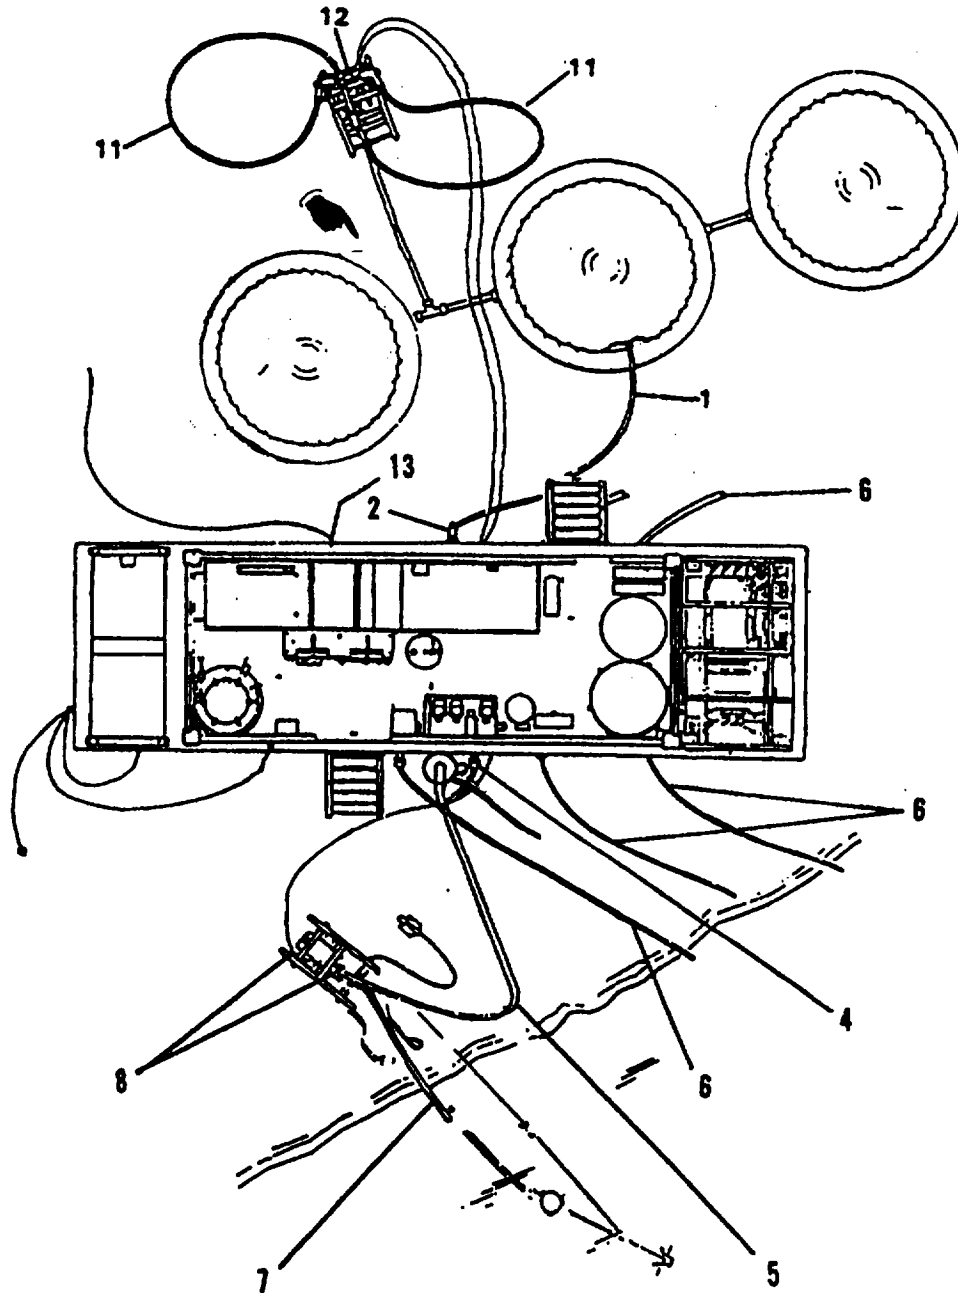

Figure 2-70. Shutdown to Secured Conditions (External to Van)
h. *Cold Shutdown to Secured Conditions.* Shut down ROWPU as described in para. 2-22 or 2-23 with the following variations (Figures 2-70 and 2-71):
- (1) While the media filter is being backwashed, remove the product hose sections (1) and the product shut-off valve (2). Cap the van connection.